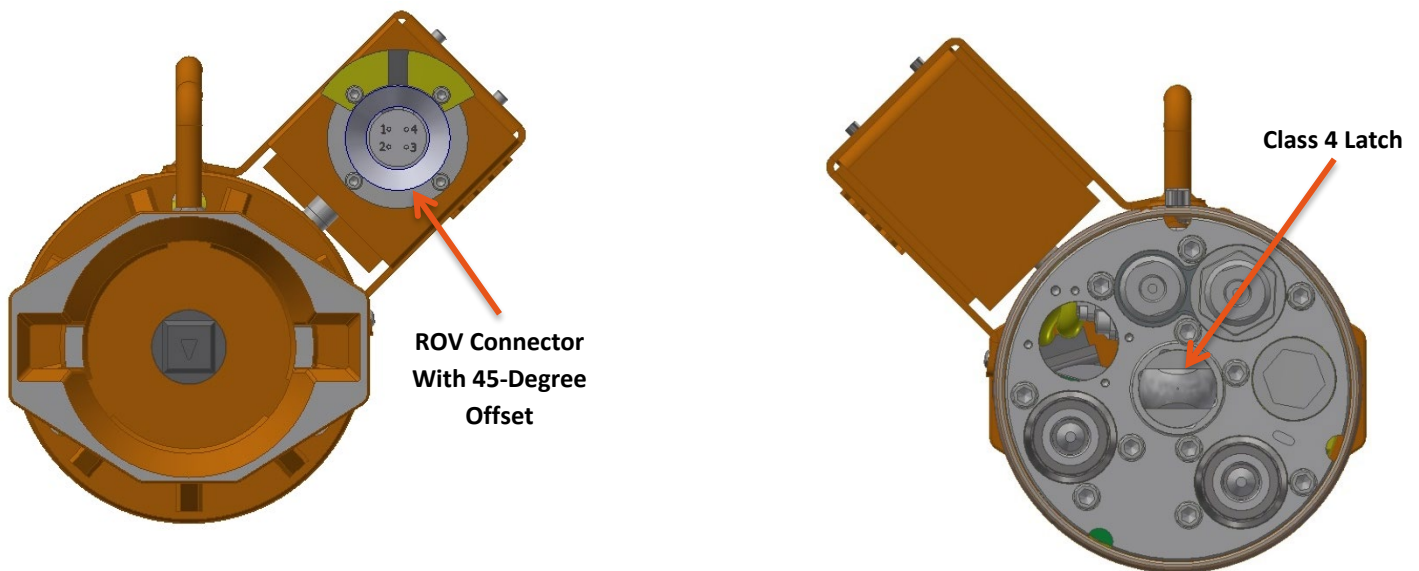
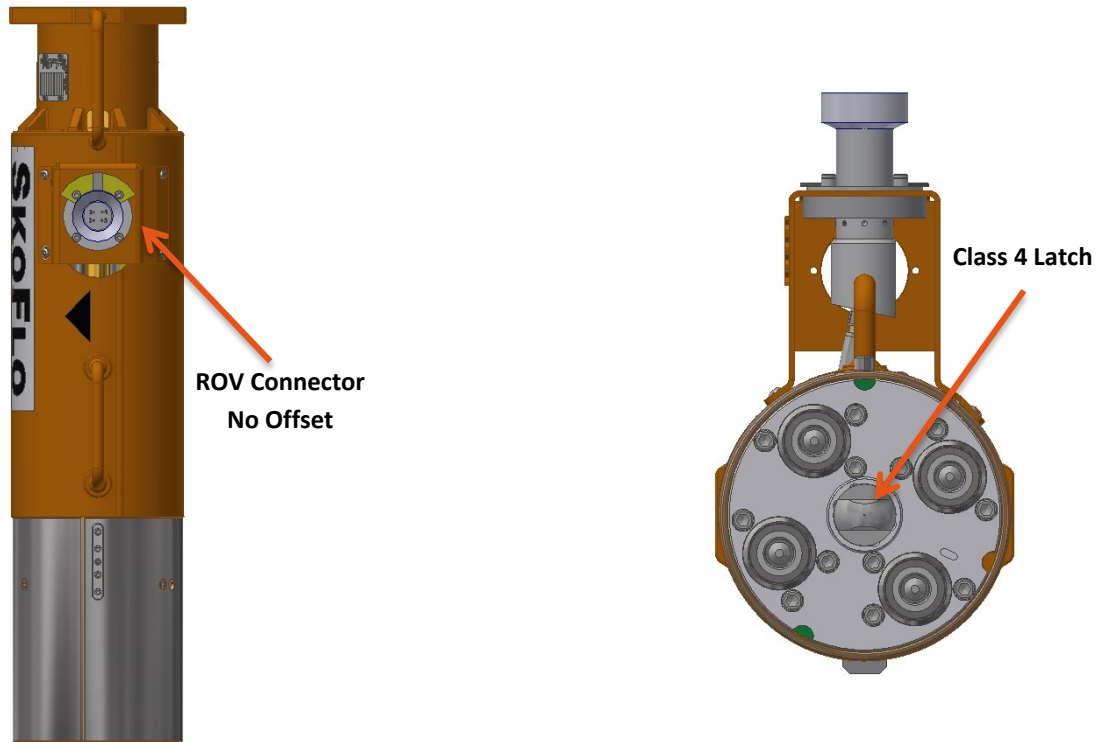

Figure 22: Horizontal ROV Mate CIMV
Figure 23: Vertical ROV Mate CIMV
- 14.3.2 ROV mate electrical connections are affixed externally to the docking canister. The horizontal ROV connection is placed at a 45-degree offset (Figure 22) and the vertical ROV connection is placed with no offset (Figure 23). Similar to stab mate, when the ROV docking canister is placed into the receptacle, the class 4 latch draws the canister into the receptacle.